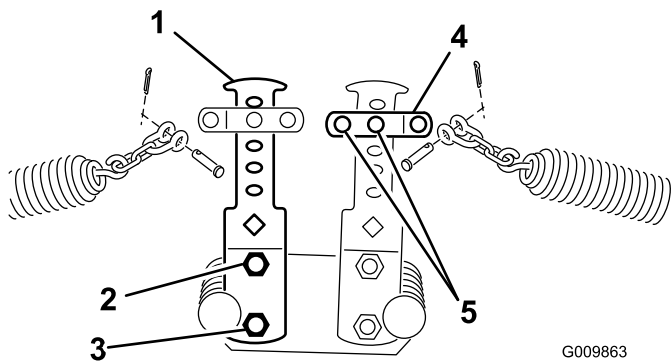
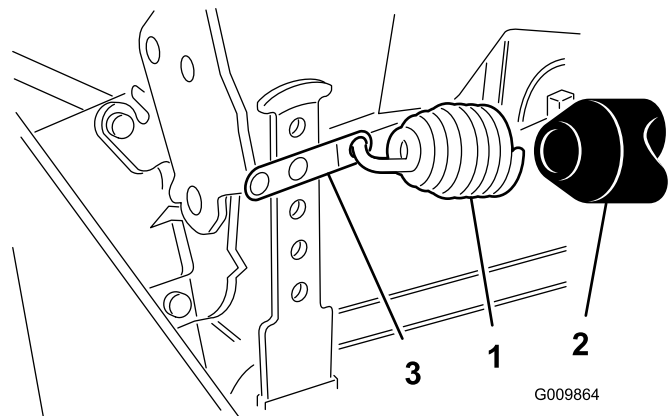

Figure 15
Figure 16
4. Secure the other end of the spring to the appropriate hole (see below) on the front and rear counterbalance arms (Figure 15 and Figure 16) with the spring shackle with the chain, clevis, clevis pin, and cotter pin.
5. Secure the other end of the spring to the second hole from the top with the spring shackle with the chain, clevis, clevis pin, and cotter pin (Figure 15).
6. On the rear counterbalance arms, install the vinyl cover over the spring before hooking the other end of the spring into the spring shackle in the second hole from the top (Figure 16).
8. Secure the bottom of the counterbalance arm to the frame with the bolt and nut previously removed. Tighten the top bolt (Figure 15).